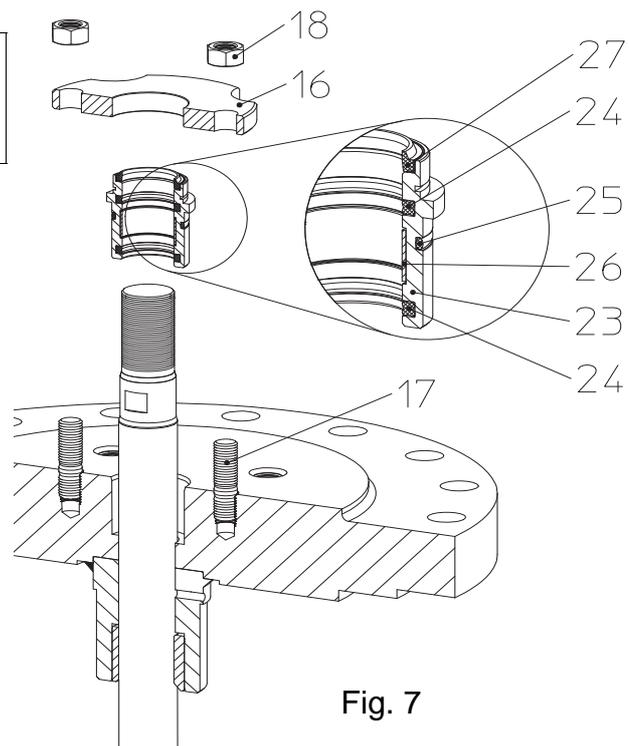

Fig. 7
- When replacing the sealings (pos. 24, 25), make sure that the parts are installed in the correct order and positions (refer to Fig. 7).